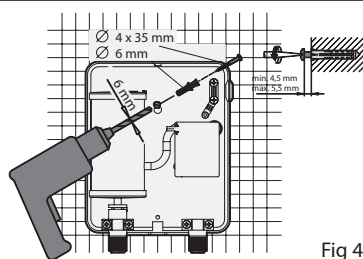

Fig 4
4. Mount unit securely to wall by putting two screws through mounting holes. Screws and plastic wall plugs for mounting are provided. (Fig 4)